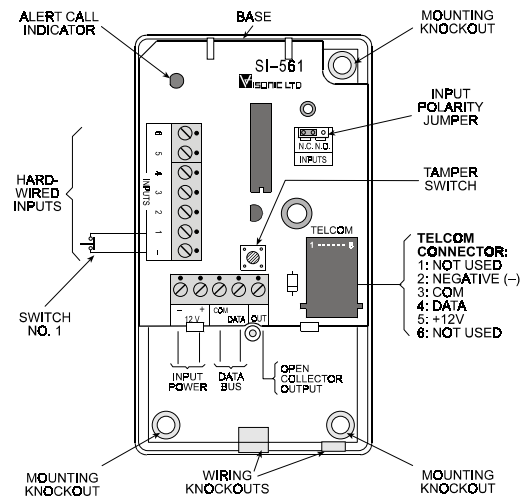

Figure 1-3. Unit's Base with SI-561 Installed
The base, which accommodates the printed circuit board, has various mounting and wiring knockouts as shown in Fig. 1-3.
The SI-561 is protected against tampering by an on-board tamper switch, which is actuated upon removal of the front cover (see Figure 1-3).
As shown in Figure 1-3, the SI-561 P.C. board allows access to mounting holes, and there is no need to remove it in order to install the base on the mounting surface.
C. Knock out the mounting knockouts of the base (see figure 1-3).
D. Hold the base against the mounting surface and mark (on the mounting surface) the points for drilling (see mounting holes in Figure 1-3).
F. Set the Input Polarity Jumper (see figure 1-3) to N.O. or N.C. position, according to the sensors type.